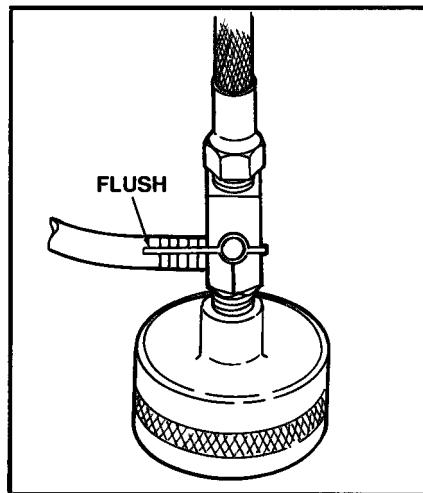

Figure 2.11 Three-Way Valve
- a. Turn the three-way valve to the **FLUSH** position: the valve arm is horizontal to the base of the valve (Figure 2.11).
If one or all test procedures are performed at the same time (within the same hour), re-flushing the lines is not required. However, if the system has not been flushed, do not use the PVC bottle to contain the sample, but rather follow the procedure for flushing the inlet hose as described in Section 2.3.7. Refer to Figure 2.11. Allow sufficient quantity of fuel to flow through the bypass tubing to flush entrained contaminants from the inlet valve, hose, and three-way valve. Discard approximately two times the required test volume or approximately 200 milliliters (7.0 ounces).